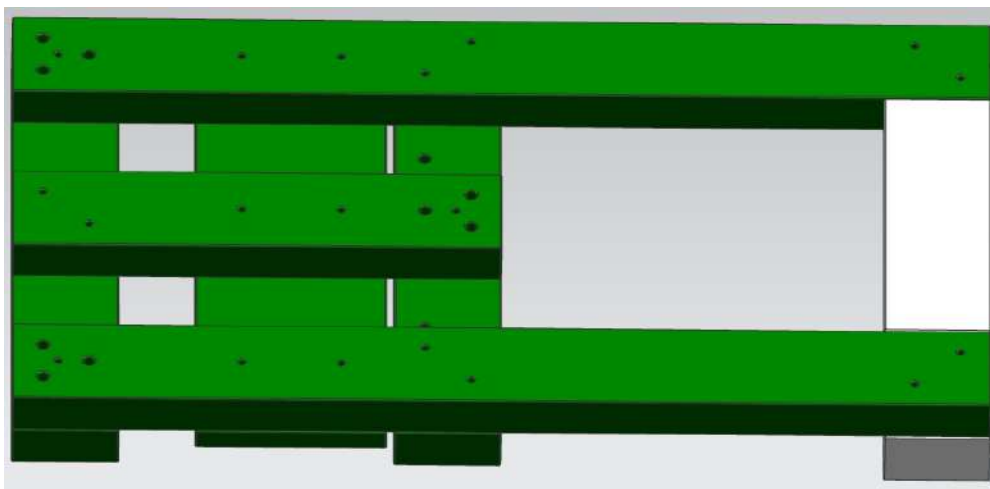

Figure 8. Underside of Frame
4. With these two boards secured in place, flip the base over and expose the bottom of the frame. As shown in figure 8 there is one more supportive board to be added to the assembly. This board, part 2 is centered between the two longer boards, part 1(i) and 1(ii). Predrill and fasten this board into its respective location.